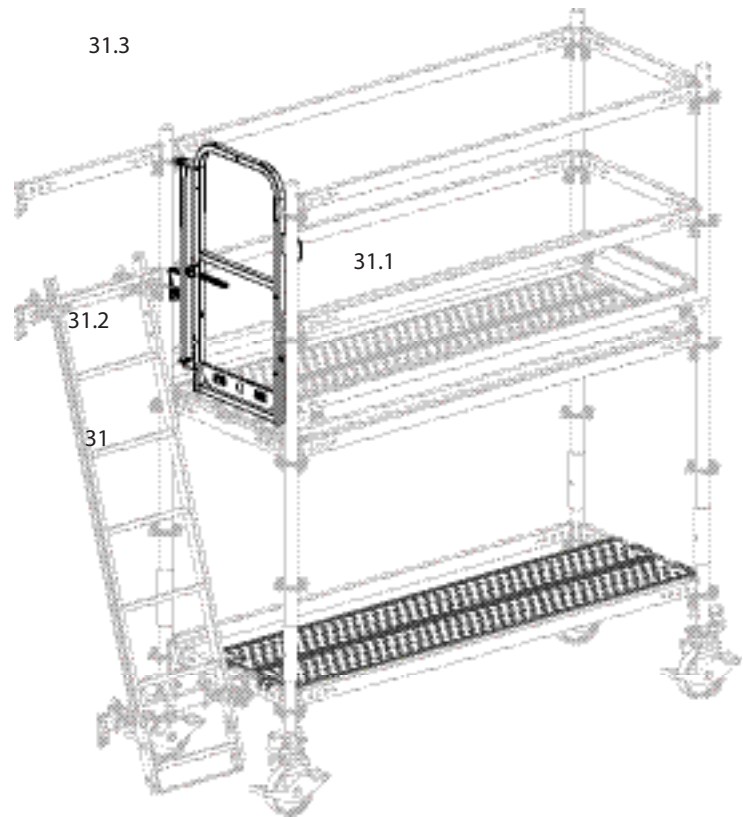

Fig. A4.09
1. Install the Safety Entry Gate UPS 75 (31) with wedge (31.2) and suspension bracket (31.3) on the rosettes of the standard.
3. Check that the self-closing function works properly. (Fig. A4.09)